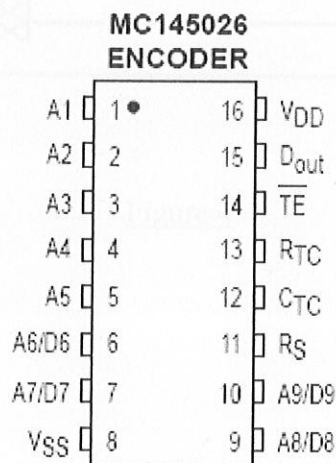

Figure 3
- Figure 3 Pin Diagram of Encoder